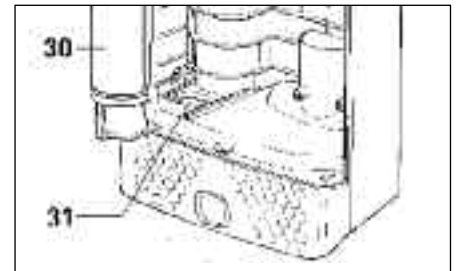

Figure 11
## Changing the Micro-Hygiene Filter - Figure 11
3. Microfilter not properly inserted.	3. Lift safety lever and insert filter with vertical plastic ridge on filter facing you (see pg. 9, figure 11).